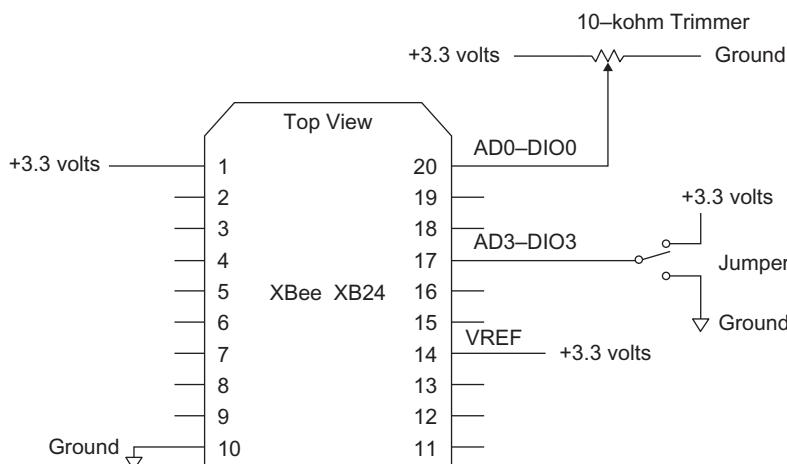

FIGURE 6.1 This XMTR module has a digital input at its AD3-DIO3 pin and an analog input at its AD0-DIO0 input.
Step 2. Place the XMTR module in its adapter socket on the breadboard. Ensure you have the power (pin 1) and ground (pin 10) connections to the XMTR module. Add a jumper wire between +3.3 volts and pin 17 on the XMTR XBee module. This wire lets you change the logic state of the DIO3 input on the XMTR module as shown in Figure 6.1. If not already connected, add the 10-kohm trimmer and the reference-voltage (VREF) connections.
Turn off power to your breadboard. Remove the XMTR module from the breadboard and set it aside. Remove the RCVR XBee module from the USB-to-XBee adapter and set it aside, too. Remove the wire at the XMTR adapter between pin 19 and the 10-kohm and 4700-ohm resistors. Figure 6.1 shows the proper wiring for the XMTR module. Place the XMTR module in the USB-to-XBee adapter.